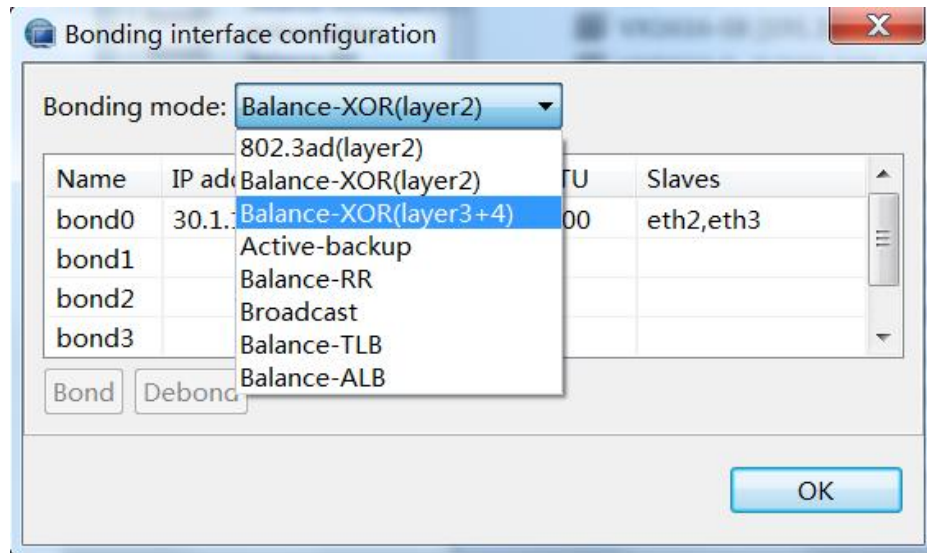

Figure 10-10 Selecting a network port for bonding 1
(3) In the popup “**Bonding interface configuration**” dialogue box, enter the bonded IP address according to the planned IP, and select the name of the network port to be bonded. Then, click **[OK]** button, as shown in the Figure 10-10: